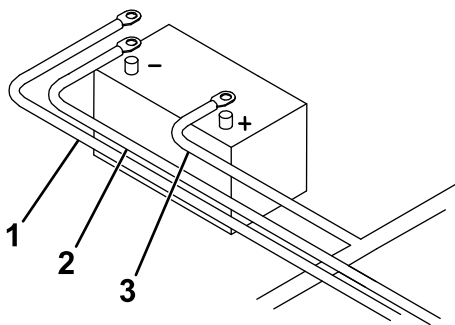

Figure 19
13. Connect the black power/ground cable to the negative (-) battery terminal (Figure 19).
14. Connect the brown wire with the large ring connector from the wire harness to the negative (-) battery terminal (Figure 19).
15. Connect the free end of the battery cable to the positive (+) battery terminal (Figure 19).